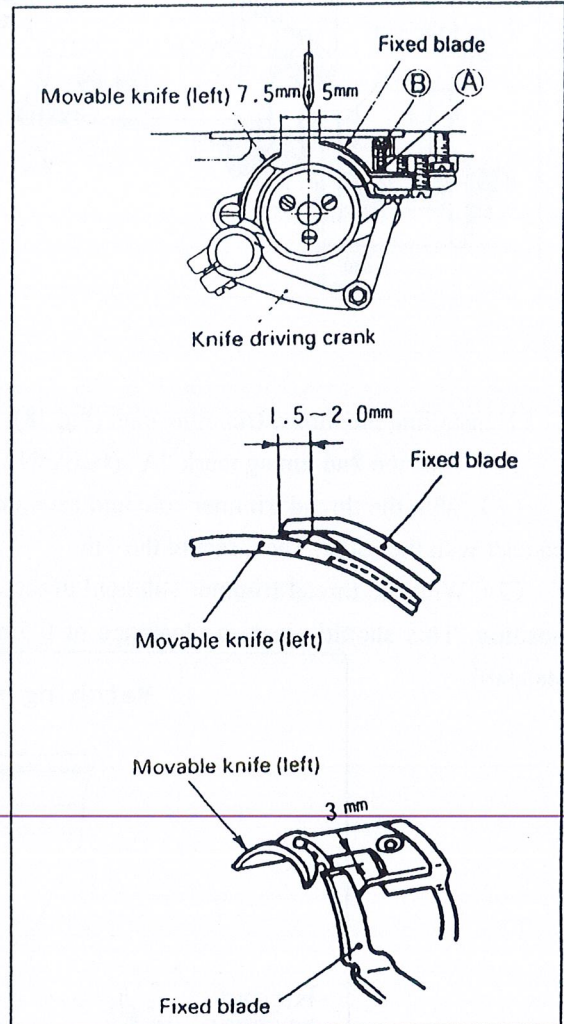

Fig.39
6) Adjustment of knife engagement (Fig.39):
See the Fig.39, the standard distances from the needle center are 7.5mm and 5mm from the movable knife (left) and fixed blade respectively: